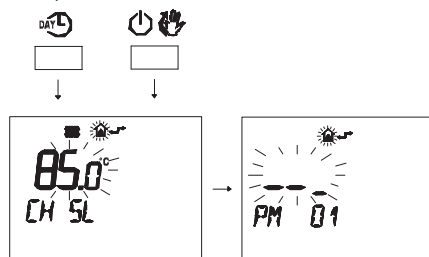

Fig. 7.32
- Press buttons **DAY** and **ON** at the same time to enter transparent programming (Fig. 7.32).